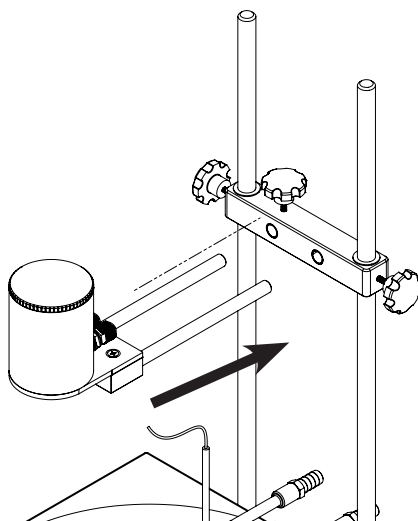

Fig. 11 : Overhead stirrer
- Insert the overhead stirrer into the column as shown in fig.11.